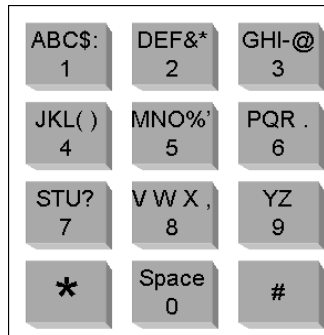

Figure 3. Alternate Keypad Functions
Refer to Figure 3 for the different characters available for each key. Press each key until the desired character displayed. Press the (#) key to accept the character and continue to the next character. When you have finished entering the Wash Name, press the enter (*) key.
- Using the (3) key to scroll forward and the (1) key to scroll back, scroll through the main menu until the "Wash Setup" option is displayed. Press the (*) key to enter.
- Using Figure 3 above as a guide, program the wash 1 name. Once you have entered the entire wash name, press the (*) key to enter.
2. Using the (3) key to scroll forward and the (1) key to scroll back, scroll through the main menu until the "Option Setup" option is displayed. Press the (*) key to enter.
4. Using Figure 3 above as a guide, program the option 1 name. Once you have entered the entire option name, press the (*) key to enter.
Refer to Figure 3 for the different characters available for each key. Press each key until the desired character displayed. The key will cycle through each upper and lower case character first, then the number, then punctuation. Press the (#) key to accept the character and continue to the next character. When you have finished entering the Text Messages, press the enter (*) key.
2. Using the (3) key to scroll forward and the (1) key to scroll back, scroll through the main menu until the "Text Messages" option is displayed. Press the (*) key to enter.
5. Enter your Receipt Header text using the keypad. Refer to Figure 3 for the alternate key functions. When you have finished programming the text, press the (*) key to return to the Receipt Header menu.
4. You will be prompted to "Enter Screen #". Select Screen (1) or (2). Press the (*) key to enter.
5. You will be prompted "Enter Line #". Select Line (1) or (2). Press the (*) key to enter.
6. Enter the customized greeting text using the keypad. Refer to Figure 3 for the alternate key functions. When you have finished programming the text, press the (*) key to return to the Text Messages menu.